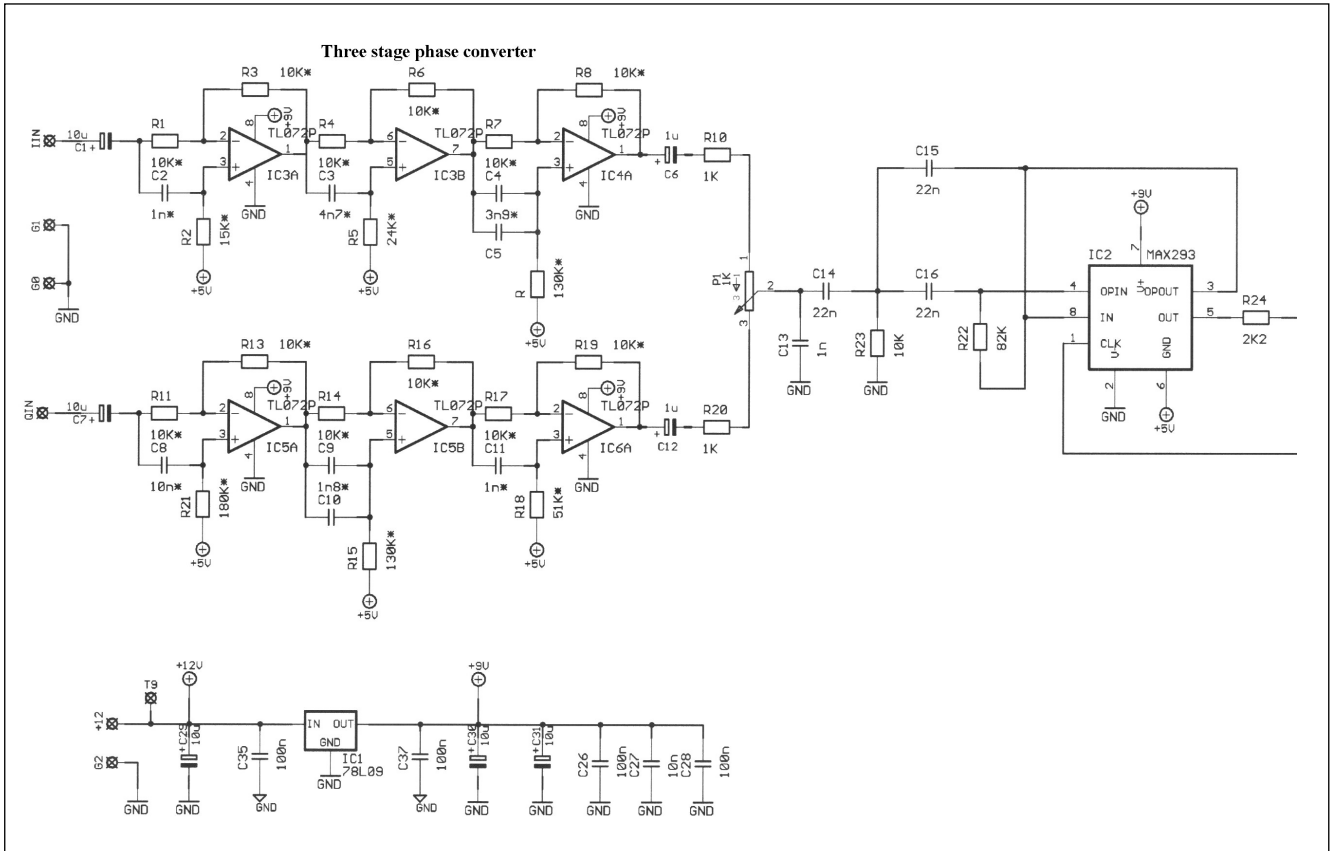

Fig 9.97: The audio demodulator of the 144MHz transceiver
**Audio demodulator (Figs 9.97 and 9.98):** On another printed circuit, there are two channels with different phase conversion. These are the Hilbert circuits that bring the signals from the desired sideband into phase and those from the other sideband into opposition. A passive circuit combines the two channels to obtain only the desired sideband. A first order active high pass filter and an eighth order elliptical low pass filter actively limit the pass band and play the major role in defining the transceiver band. A knob on the front panel can control the low pass filter. This adjusts the cut off frequency from 700 to 3,000Hz to cover the SSB and CW requirements.